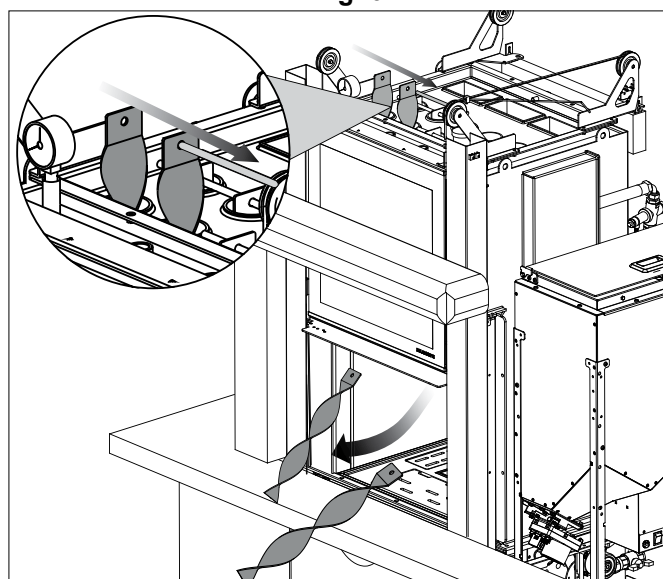

fig. 6.4
- From the top inspection chamber, gently lift the turbolators immersed in the exchange tubes and extract the metal plug that locks them in position (fig. 6.4).
- Extract the turbolators from below and clean the exchange tubes (fig. 6.4).